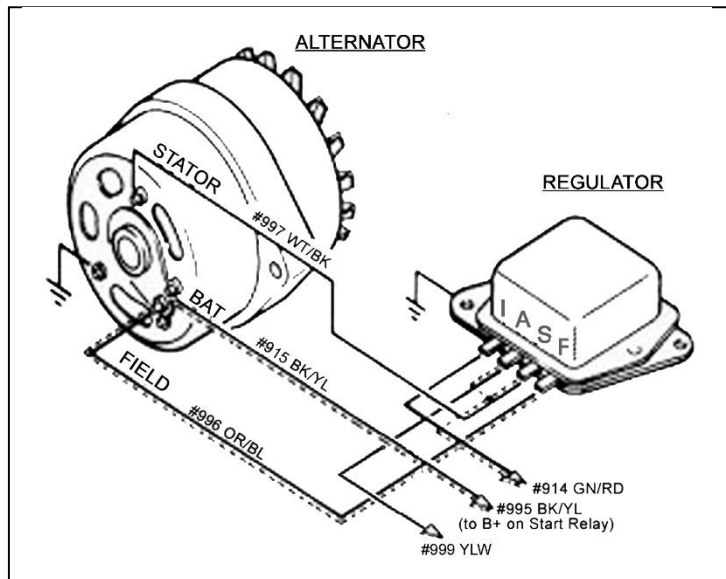

Figure 7-1A Ford Alternator (2 Configurations)
7.1.7 An alternate (and less-used) method is to omit the Alternator Stator wire, install a 14-gauge jumper across Voltage Regulator terminals A & S, and connect wire #914 to either the A or S terminal of the Voltage Regulator. The FIELD wire and wire #915 are connected as above. Do **NOT** connect wire #999 as in **Paragraph 7.1.3**. Make certain this wire is safely insulated and stowed; it is an **unprotected** battery hot wire. The Voltage Regulator Ignition (I) terminal is not connected. Install ground wires as in **Paragraph 7.1.5**. This alternate configuration is illustrated in dashed lines in **Figure 7-1A**.